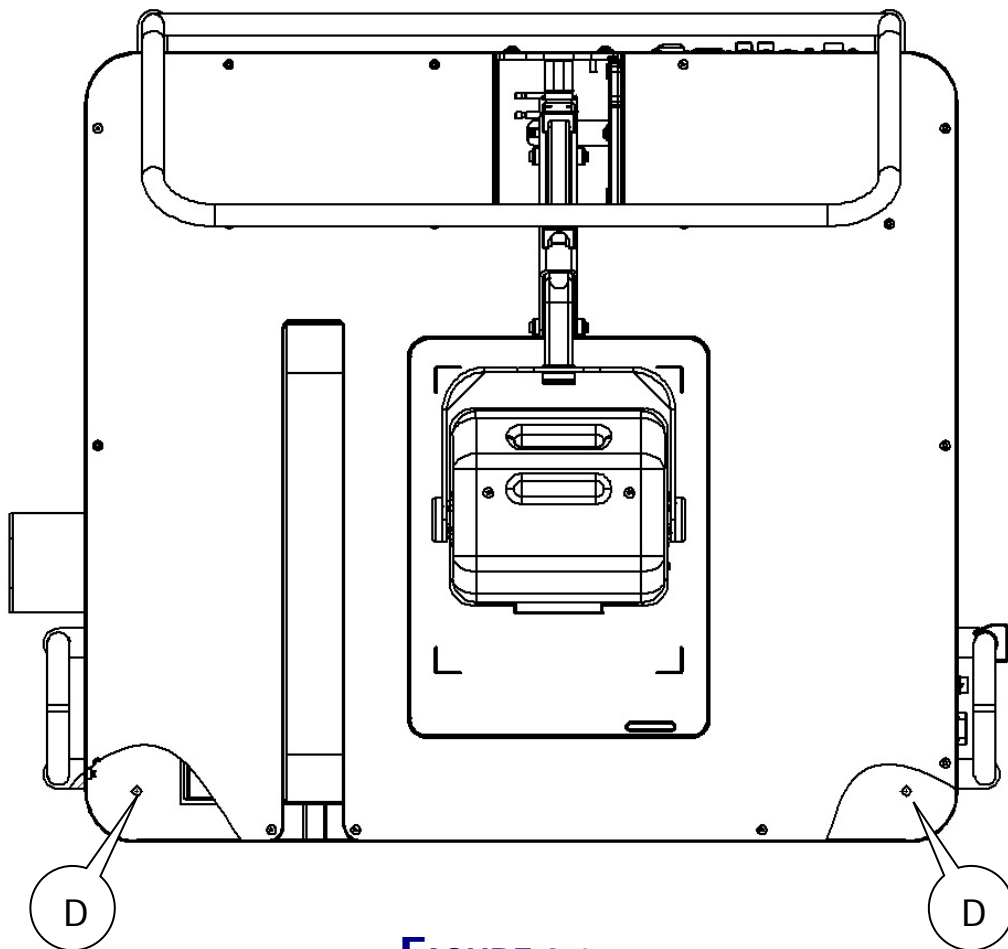

FIGURE 2.1
2.2 ASSEMBLY (REFERENCE FIGURE 2.1 & 2.2)